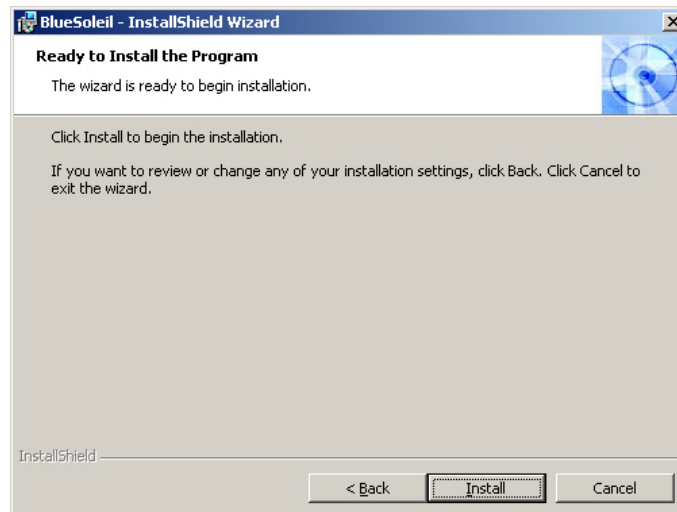

Figure 7-35: Ready to Install the Program
Step 8: Click **NEXT** and the InstallShield Wizard is ready to install the program (**Figure 7-35**).